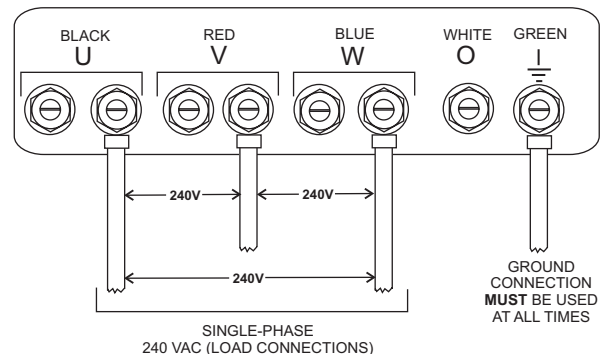

Figure 17. UVWO Terminal Lugs
2. Connect the load wires to the UVWO terminals as shown in Figure 17.